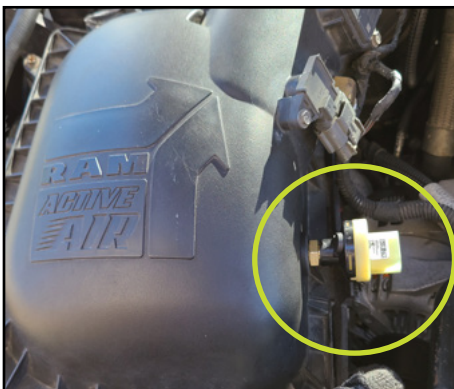

Figure 7: Installing the sensor onto the fitting
6. Install the sensor onto the fitting and hand tighten until snug. Be sure not to overtighten. (See Figure 7.)